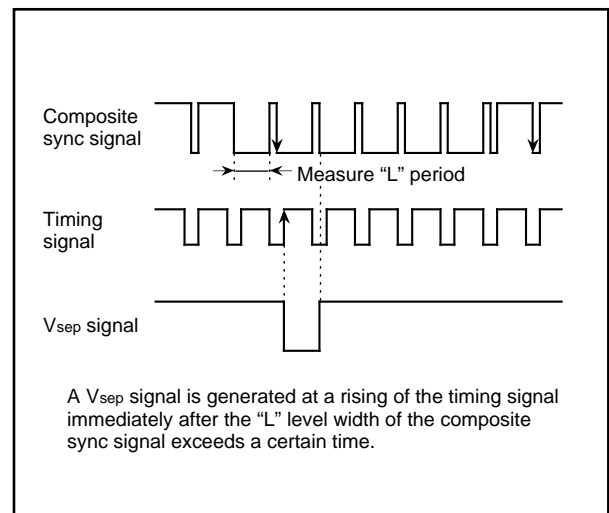

Fig. 28. Vsep Generating Timing (method 2)
•Method 2 The "L" level width of the composite sync signal is measured. If this width exceeds a certain time, it is detected whether a falling of the composite sync signal exits or not in the "L" level period of the timing signal immediately after this "L" level. If a falling exists, a Vsep signal is generated in synchronization with the rising of the timing signal (refer to Figure 28).
Figure 28 shows a Vsep generating timing. The timing signal shown in the figure is generated from the reference clock which the timing generating circuit outputs.